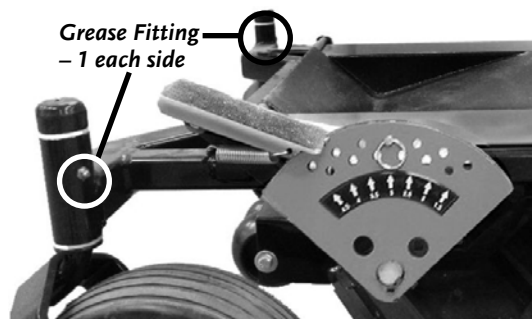

Figure 12
5. Using Lithium Grease, lubricate the Front Wheel Spindles (**Figure 12**) until grease starts to come out of the weep holes.